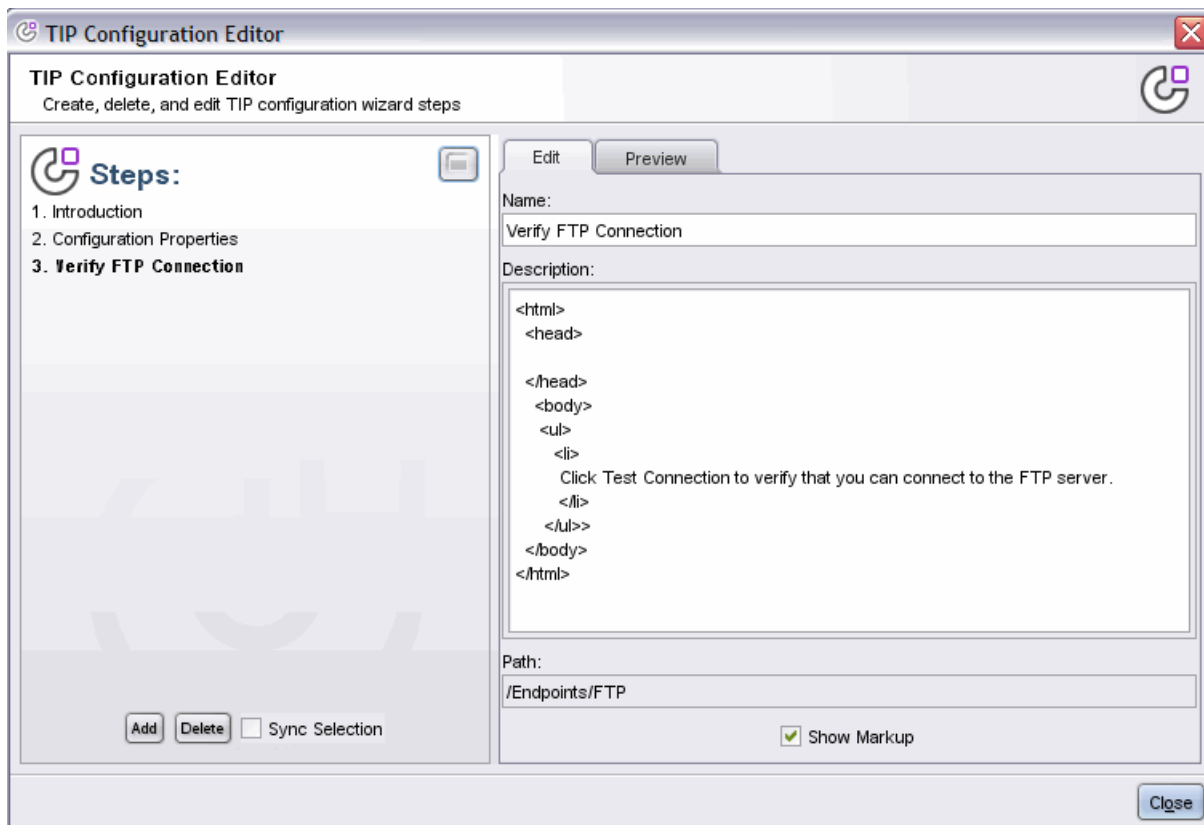

Figure 7-11 Verify FTP Connection step
- d. Enter the instructions for this step in the Description field, shown in Figure 7-11.